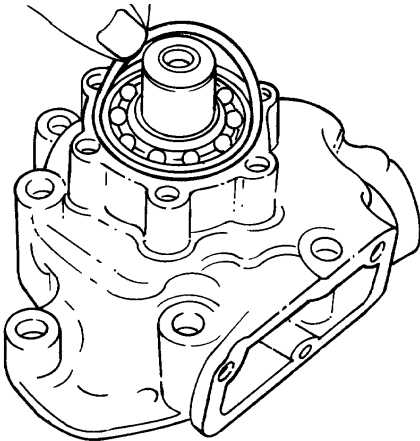

Figure 93 - O-Ring - Installation
- f. Install the O-ring in the coolant pump housing (Fig 93).